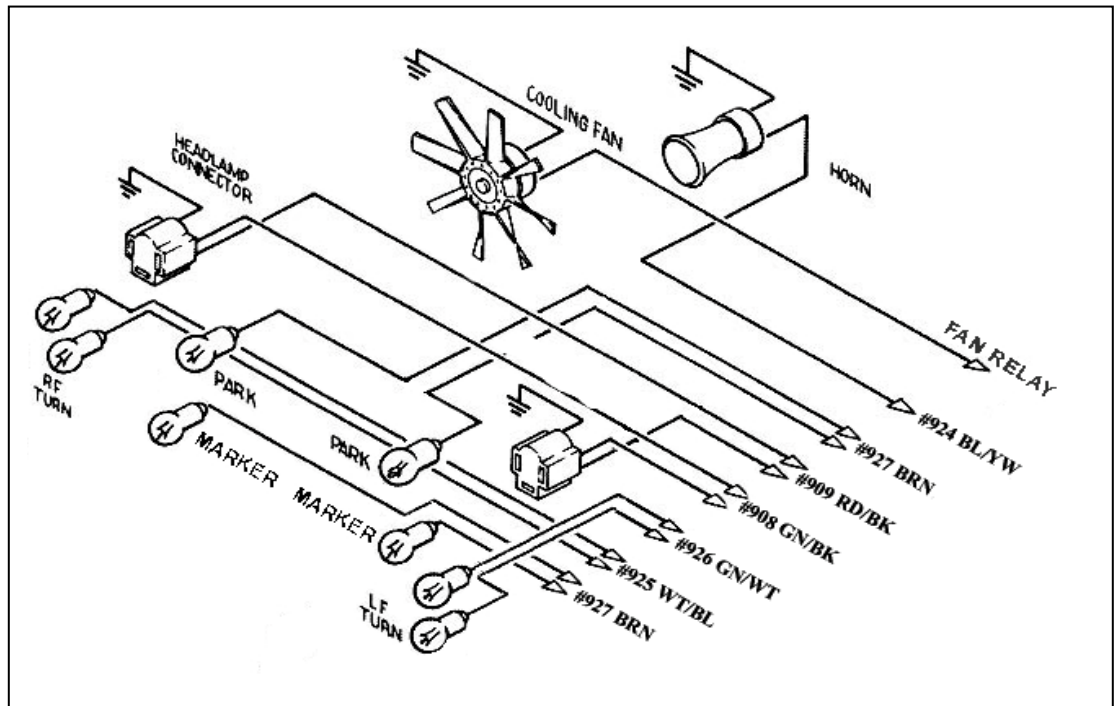

Figure 8-3A HEADLIGHT SECTION A Wiring
8.3 HEADLIGHT SECTION A. See Figure 8-3A.
Note: The wire going to the fan in Figure 8-3A will be coming from the fan relay output terminal. Wire #901 (GRY/WHT) from the ACCESSORY SECTION SWITCHES is an activation wire for the fan relay.